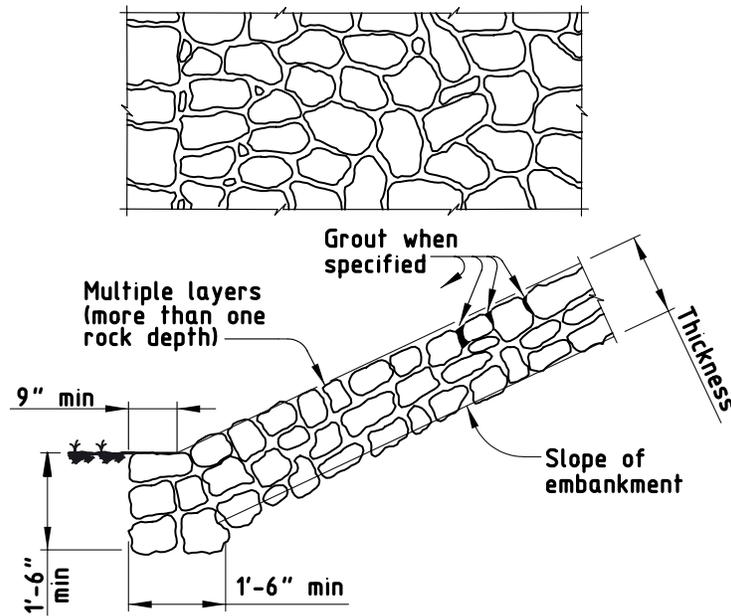

Figure 4
3. **Common.** Construct riprap as shown in Figure 4. Place stones on a bed excavated for the base course. Bed the base course of stone well into the ground with the edges in contact. Bed and place each succeeding course in even contact with the preceding course. Use spalls and small stones to fill any open joints and voids in the riprap. Ensure the finished surface presents an even, tight surface, true to the line and grades of the typical sections.